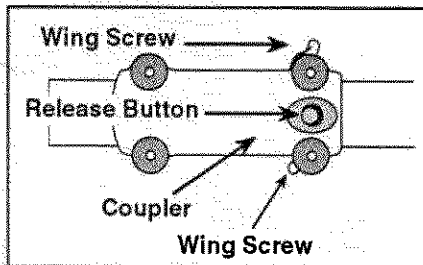
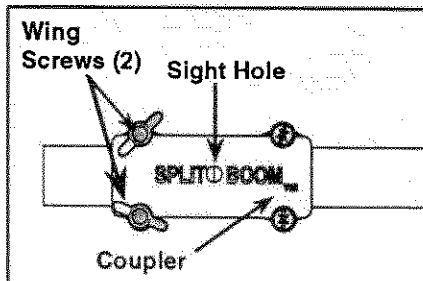

Fig. 5
Fig. 6
2. Remove the protective cover from the lower boom and push it into the coupler (Fig 5).
4. Locate and lock the release button into the hole in the coupler (Fig. 5). Check the sight hole to make sure both ends of the boom are together (Fig. 6). Tighten the wing screws before using.
5. To remove the attachment, loosen the wing screws, push the release button and pull the lower boom straight out of the coupler (Fig. 6).